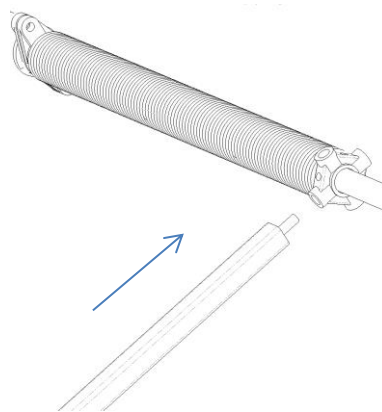
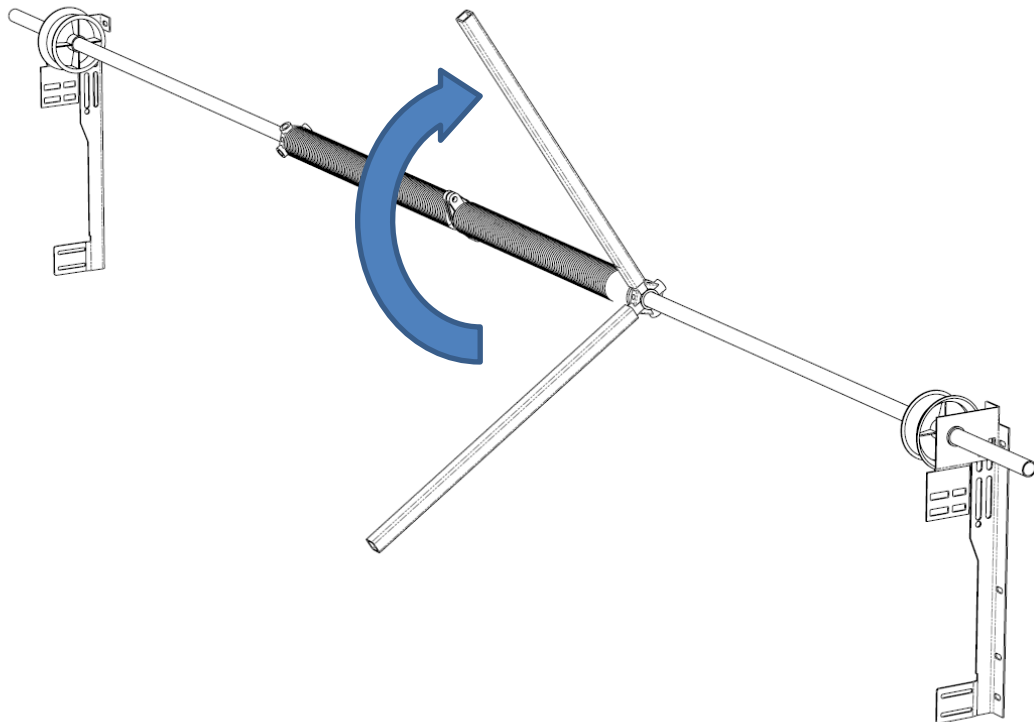

Figure 23
Figure 24
- g. Insert winding bar in end cap (Figure 23) and raise $\frac{1}{4}$ of a turn (Figure 24)